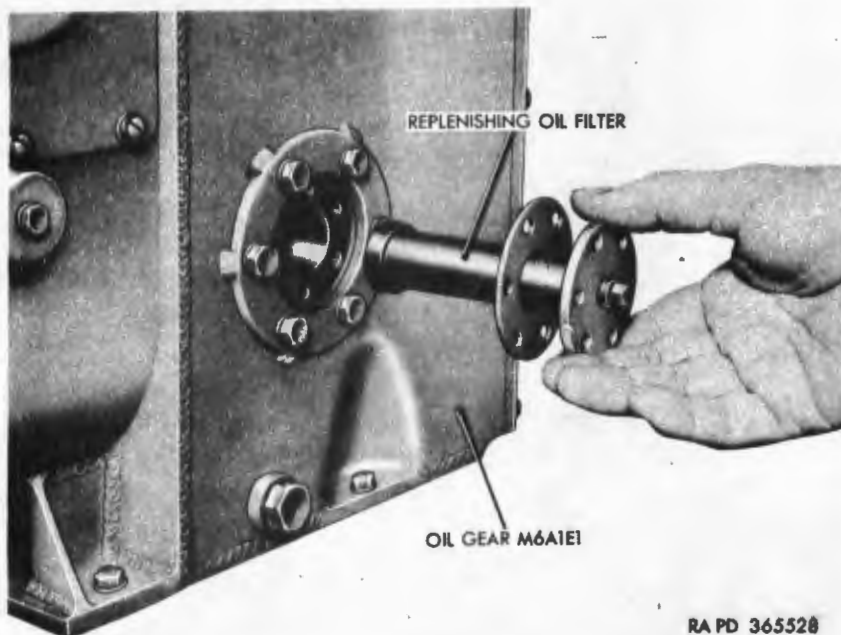

Figure 264. Removal or installation of replenishing oil filter.
259) and filter gasket to the filter housing. Pull out replenishing oil filter (fig. 264) and remove gasket.
- (6) Slip filter head gasket over oil filter and position on filter head. Install replenishing oil filter (fig. 264) into filter